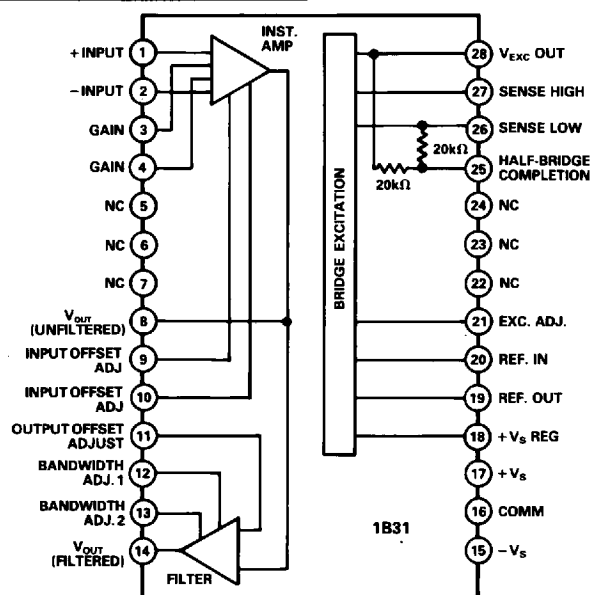

Figure 1. Block Diagram and Pinout
Model 1B31 is based on a two-stage amplifier design and an adjustable voltage regulator section, as shown in Figure 1. The front end is a low noise, low drift, instrumentation amplifier (IA) that is optimized to amplify low level transducer signals (from 2mV full scale) riding on high common-mode voltage ($\pm 9.5V$). The gain of the IA is programmed by a single resistor (1V/V to 2500V/V) and the input offset nulled out by an external potentiometer across the offset adjust Pins 9 and 10. The inverted signal ($V_{-INPUT} - V_{+INPUT}$) is brought out to Pin 8 for applications such as vibration and torque testing where the unfiltered output is required.